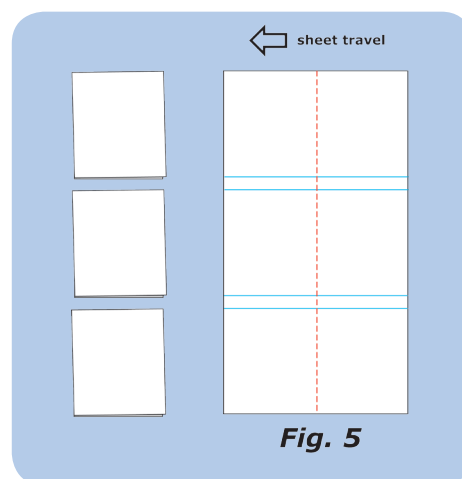

Fig. 5
**Figure 5** shows another popular use with the Multi Tools—**run any parallel fold job 2, 3 or more up** and then slit or double-trim to yield the final piece. With the Multi Tool you can trim stocks up to a combined thickness of about .040" whether it's cover stock or text, and it will have a guillotine edge.